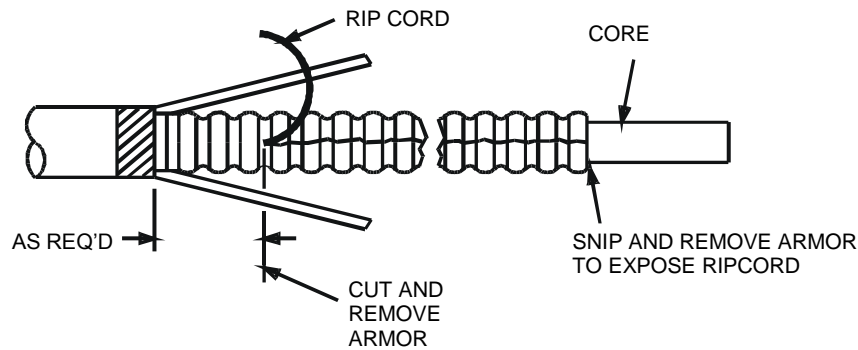

Figure 3 – Remove the corrugated armor layer.
8. Snip the armor overlap about 3 inches from the end of the cable. Peel off the 3-inch section of corrugated metal to expose the inner ripcord and core tube (Figure 3). **Caution: The exposed edges of the metal armor are very sharp. Use work gloves to avoid injury.**
10. Snip the end of the corrugated metal opposite of the armor overlap to create a starting point for the ripcord. Wrap the armor ripcord around the tip of needle nose pliers and pull the ripcord through the armor, opposite of the armor overlap, to the position where the armor will be cut and removed (Figure 3). Pull the ripcord at a 90° angle relative to the cable axis to avoid ripcord breakage.